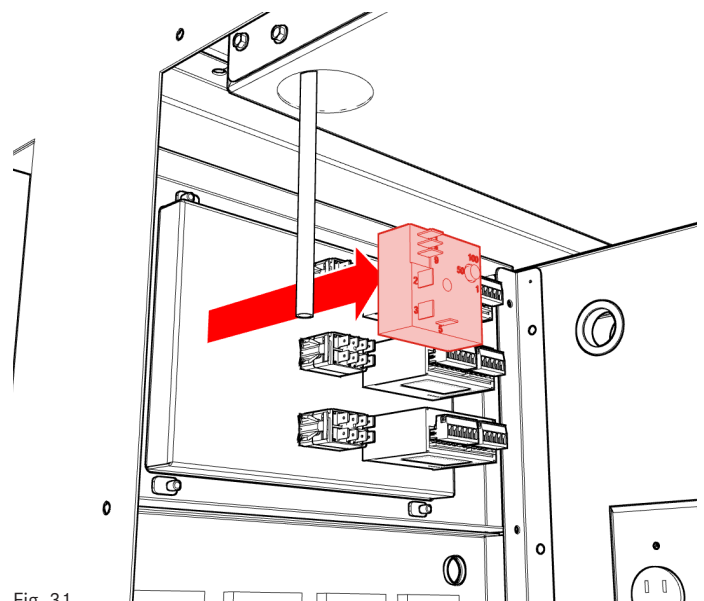

Fig. 31
3. Remove one (1) screw fastening timer to controller plate. Pull timer away from controller plate to remove (Fig. 31).